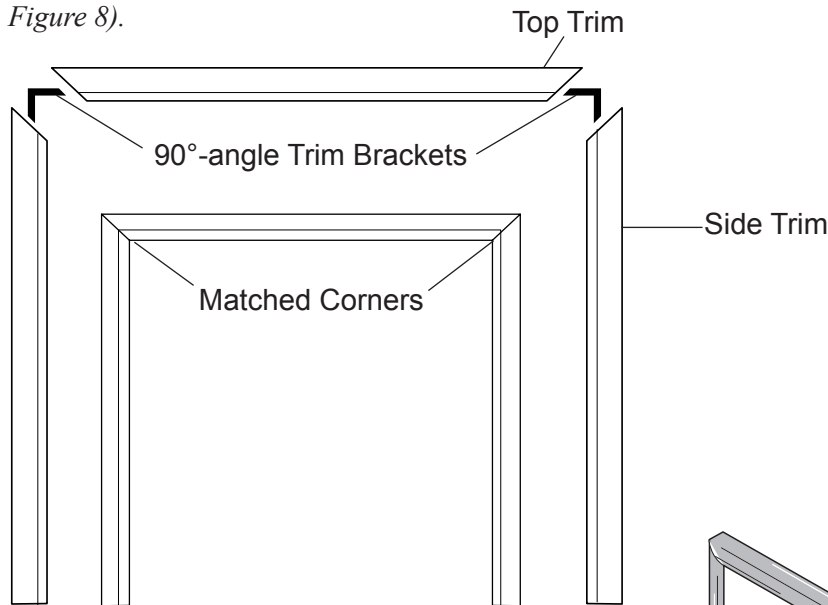

Figure 6 - Matching and Joining Corners of Black Trim with 90°-angle Trim Brackets
1. Remove black trim from protective packaging. Remove four (4) black screws and 2 (two) 90°-angle trim brackets from owner's manual packaging.
2. Lay trim on floor and match corners of side trims to top trim (See Figure 6).
3. Use one 90°-angle trim bracket to join the corner of one piece of side trim to the corner of the top trim piece (See Figure 6). A rubber hammer or handle of a claw hammer will help secure the corners.